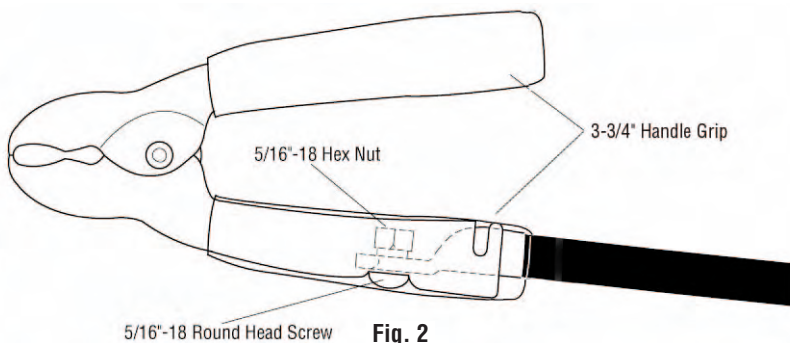

Fig. 2
8. One handle of the booster clamp is formed so that the heavy wall lugs will nest inside. Bolt the lug into place according to Figure 2.
9. Slide the 3-3/4" (95mm) handle grip down over the handle and lug, according to Figure 2.
10. Push the other handle grip onto the other handle. Make certain the grips are the same color on both handles. See Figure 2.